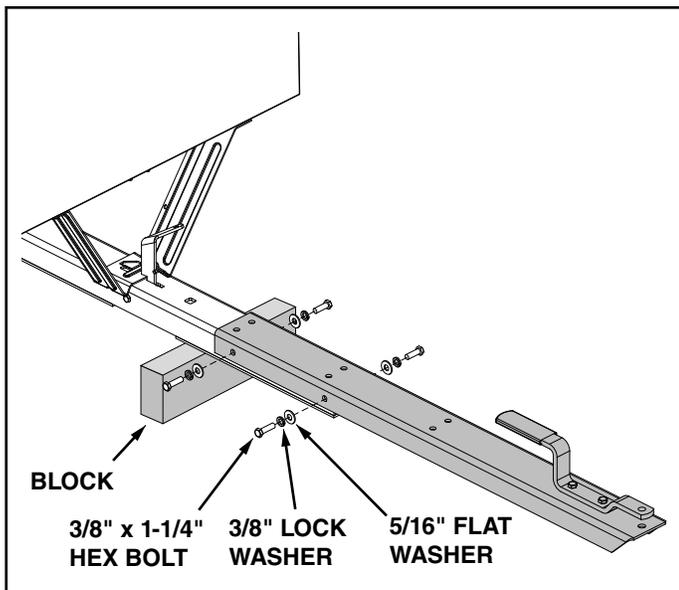

FIGURE 5
8. Assemble the front tongue on top of the rear tongue using four 3/8" x 1-1/4" hex bolts, 3/8" lock washers and 5/16" flat washers. See figure 5.